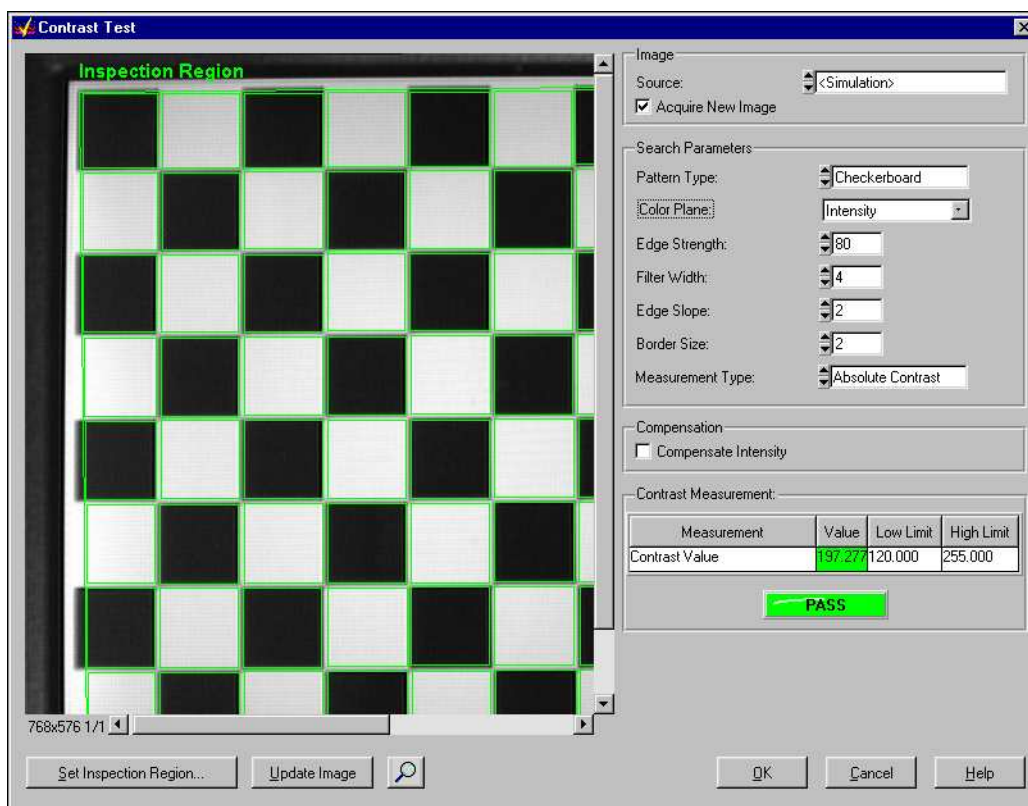

Figure 2-9. Contrast Step Configuration Panel
1. Right-click the **Contrast** step and select **Configure Contrast** from the context menu. A configuration interface appears, as shown in Figure 2-9.